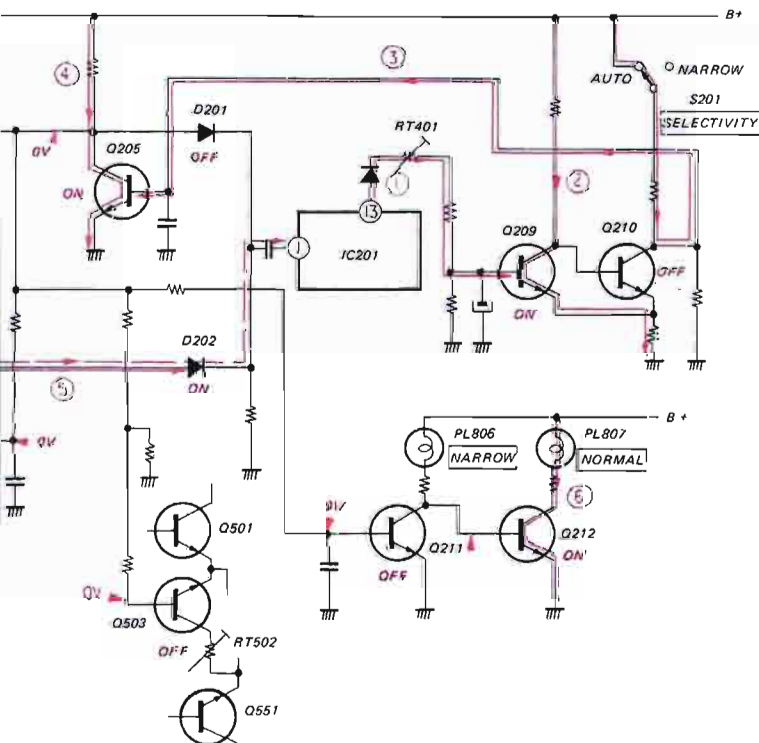

Fig. 1-6
2) When receiving a strong signal (antenna input level in excess of 30 dB μ). see Fig. 1-6.